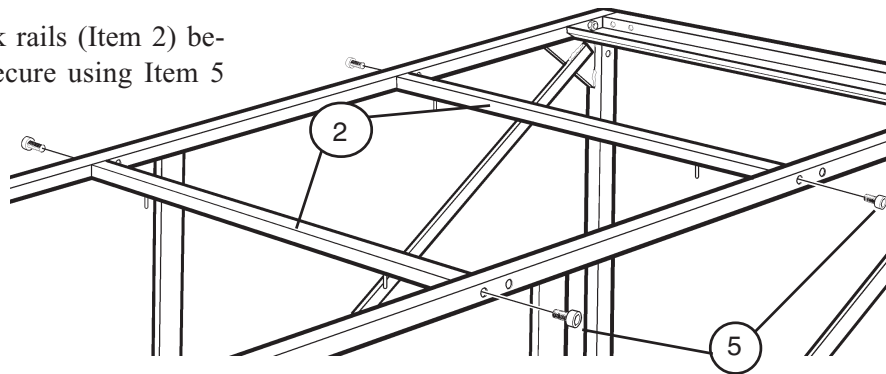

Figure 4: Inserting the Horizontal Back Rails
Step 3: Insert the horizontal back rails (Item 2) between the side frames and secure using Item 5 (Figure 4).